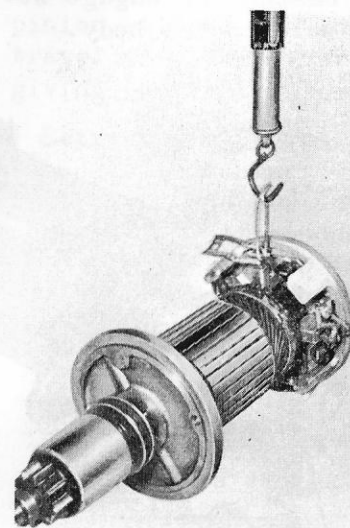

Fig. 10-106
- b) The brush spring tip should be hooked with a spring balance thereby checking its pressure as illustrated in Fig. 10-106. The balance should be pulled in parallel with the brush to measure the force required for the spring to release from the brush. The brush strength is normally of the order of 0.9 - 1.1 kg.
(2) Inspecting the gear case